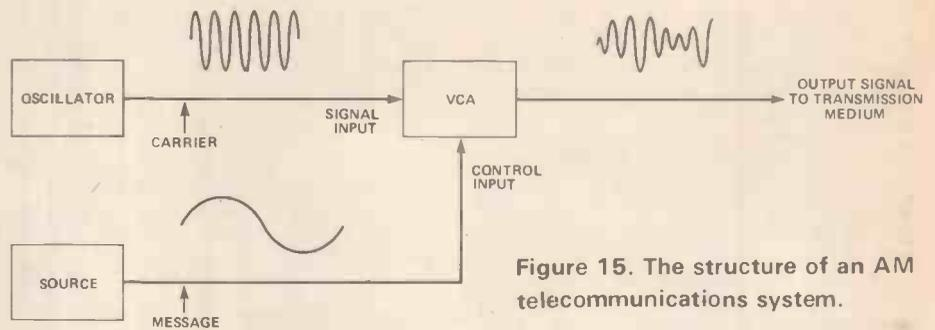

Figure 15. The structure of an AM telecommunications system.
The process of multiplexing is usually undertaken by modulating the message signal (ie, the signal from the source) in some way. In FDM the message signal is modulated with a second signal known as the carrier. Very simply, we can think of FDM as being a process whereby a signal (the carrier) carries another signal (the message signal) "piggy-back" from the source to the receiver over the transmission medium. The simplest form of modulation in an FDM telecommunications system is known as amplitude modulation (AM). In AM the carrier signal is generally a high frequency sinuswave generated by an oscillator. Such an AM system is shown in Figure 15. The carrier signal is applied to the signal input of a voltage controlled amplifier (VCA), which is controlled by the voltage at its control input. In the system of Figure 15, the message signal is applied to the VCA control input therefore the output carrier amplitude is controlled by the message signal amplitude — this is AM.